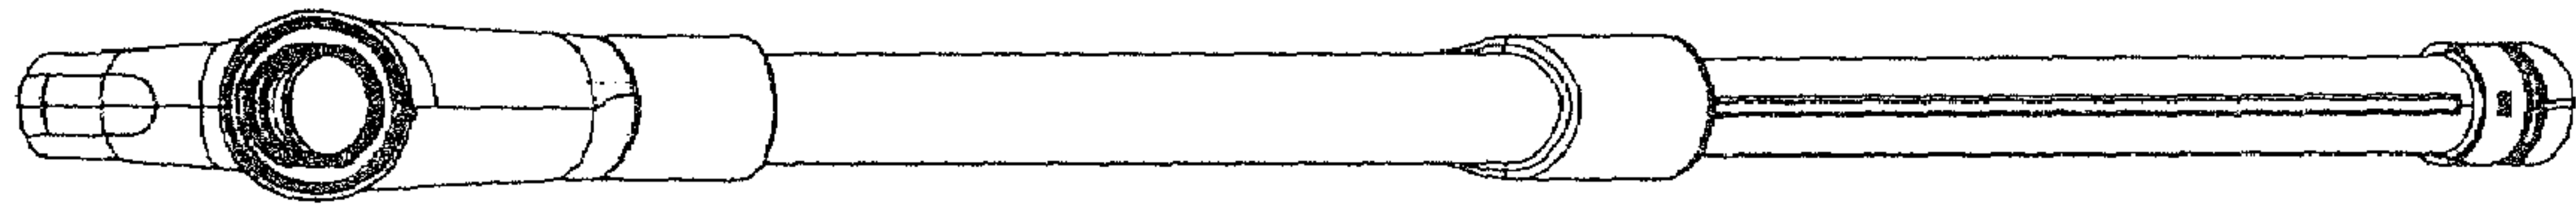

FIG. 8
- FIG. 8 is a rear view in an open position;